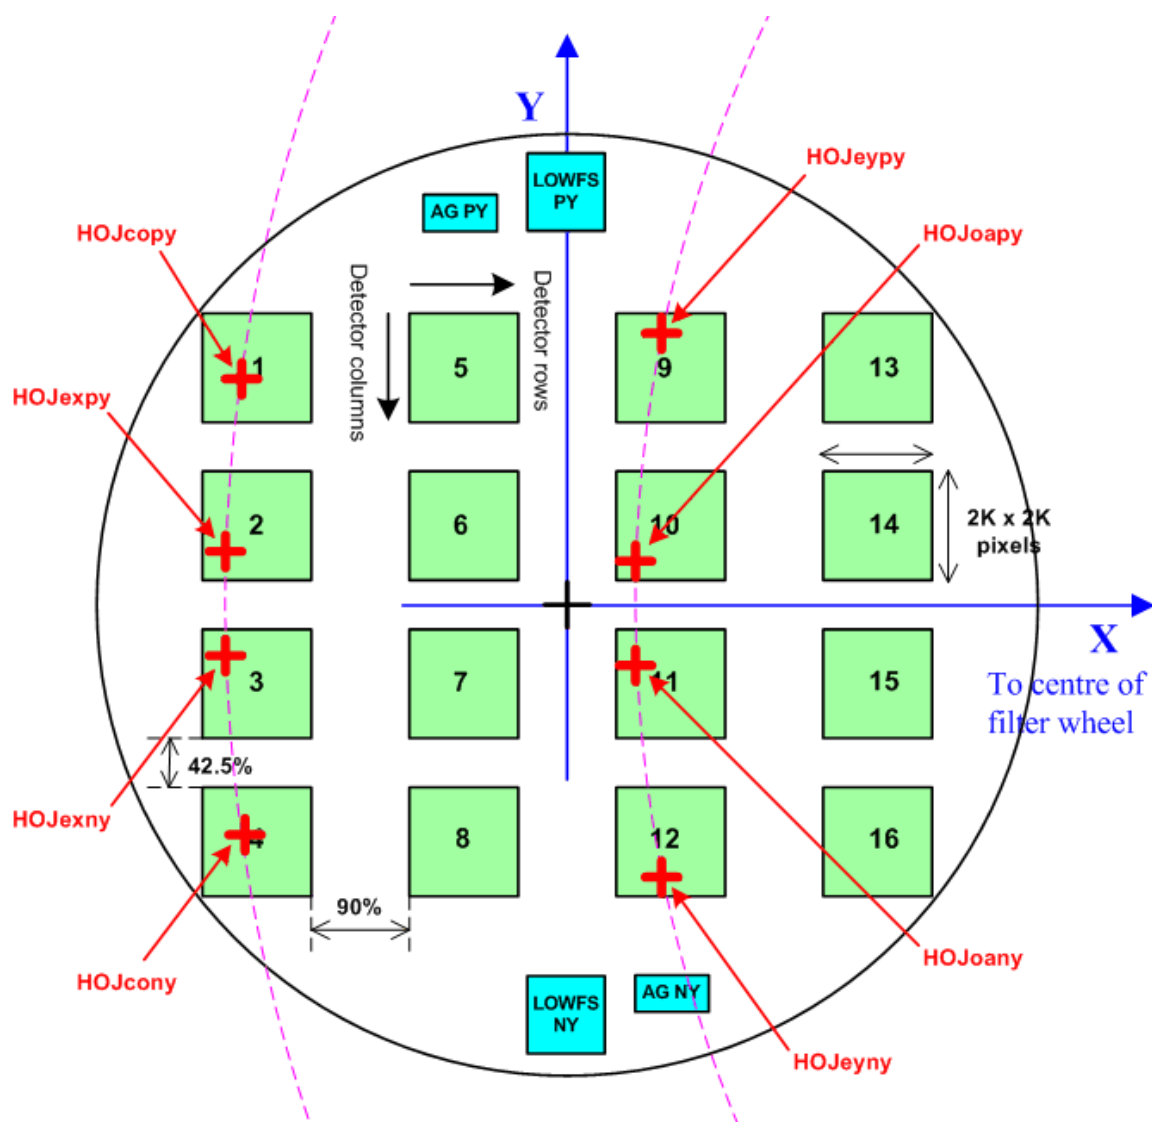

Figure 9 Location of HOWFS positions in the focal plane.
- A high order wavefront sensor (HOWFS) which uses a beam splitter stored in an intermediate position on the filter wheel and extracts pre-focus and post-focus images from the science detector. There are two HOWFS beam splitters, each at a different radius from the centre of the filter wheel. Figure 9 below shows the arcs swept out when the filter wheel moves these beam splitters across the focal plane. The “+” symbols show the locations of the 8 pre-defined HOWFS measurement positions. The “HOJ” prefix in the names of these locations indicates that this particular beam splitter contains a filter in the “J” wavelength range. An “ex” or “ey” in the name of a HOWFS filter represents extreme x or y, “co” in the name means ‘corner’ and “oa” means ‘on-axis’